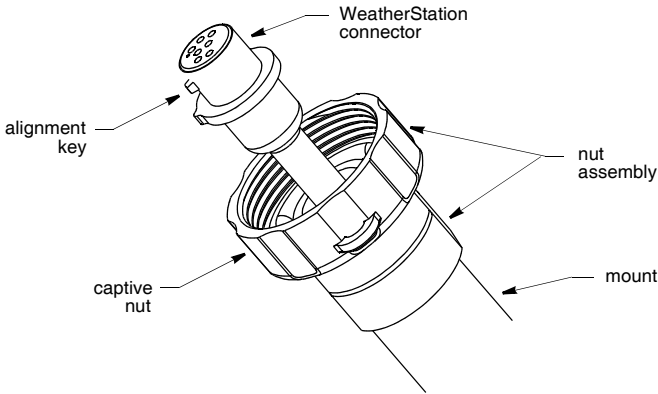

Figure 6. Attaching
1. With the nut assembly on the cable near the WeatherStation connector, thread the cable through the extension pole (if used), antenna mount, and the cable exit. Be sure to leave several inches of cable extending beyond the nut assembly (see Figure 6).